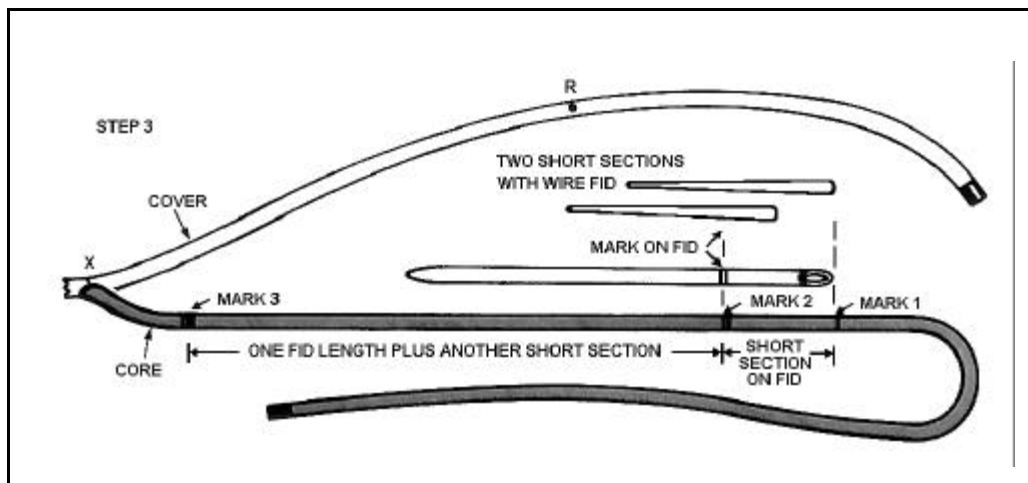

Figure 12-54. Marking the Core (Step 3)
- **STEP 3 -- Marking the core.** Again, slide cover toward slip knot to expose more core. From Mark 1 following the core towards point X, measure a distance equal to the short section of tubular fid (two short sections with wire fid) and make two heavy marks. This is Mark 2. From Mark 2, measure in the same direction one fid length plus another short section of the fid (with wire fid, double measurements). Make three heavy marks for Mark 3 (see Figure 12-54).